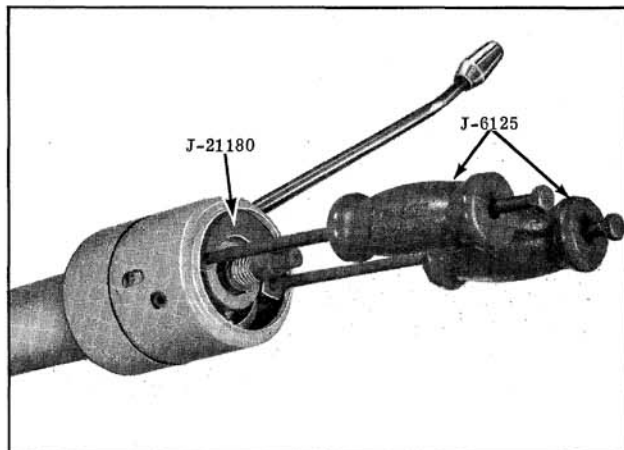

Fig. 8-95 Removing Turn Signal Cover
- Remove the turn signal cover. (Fig. 8-95)